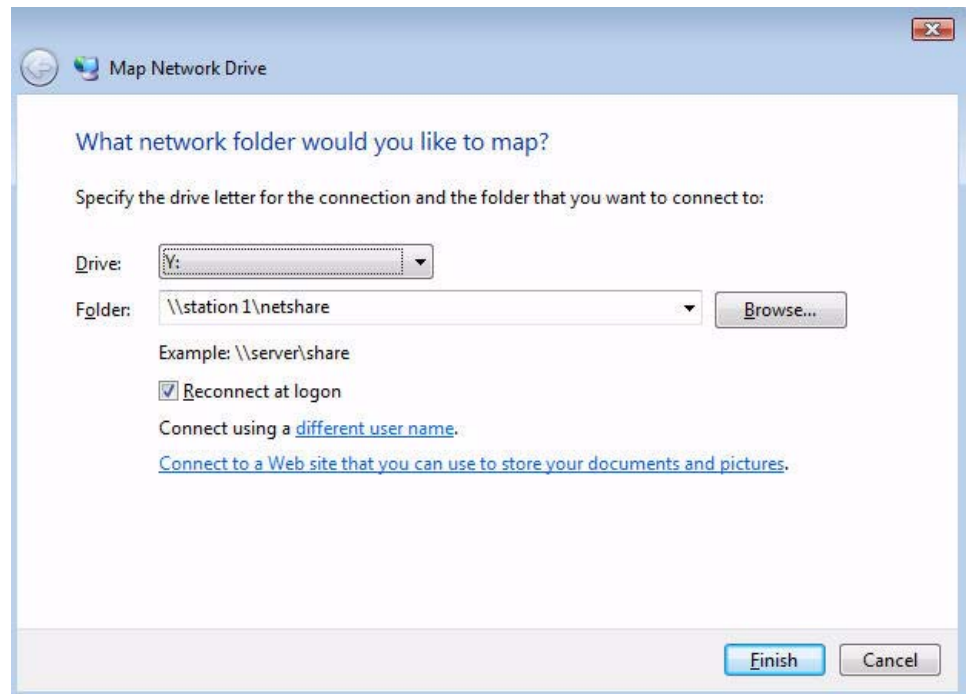

Figure D-22 Enter the Review Station Computer Name and Shared Folder Name
3. In the Folder field, enter the computer name and shared folder name. Use the format “\computer name\shared folder name” as shown below (Figure D-22). In this example, the computer name is **station1** and the shared folder name is **netshare**. The names are not case-sensitive.